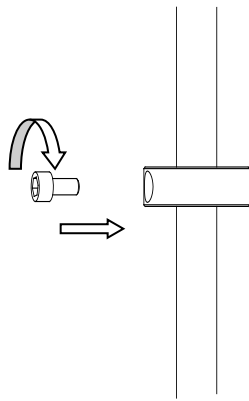

Figure 1
2. Put the stand rod through the check ring (refer to figure 1). Adjust the position of the check ring until the hole on its side lines up with the hole in the middle of the rod, twist the screw clockwise to attach the checking ring and the rod.